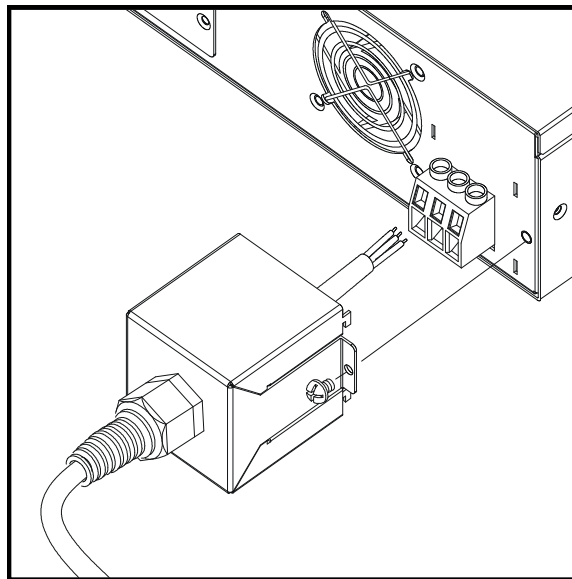

Figure 2-2
- (1) The input connector board is located on the right side of the rear panel.
- (2) The power line must be rated at least 85°C.
- (3) The power cable gage must be 10AWG or 12AWG. (**Note:** 42050 must be 8AWG or 10AWG when connecting 3-phase 4-wire Δ .)
- (4) To assemble the 42006, 42012 & 42024: See Figure 2-2 and execute the following steps: